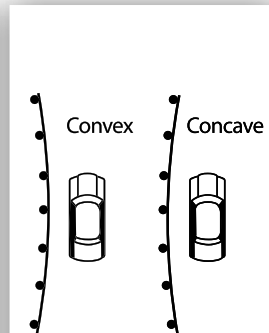

Figure 9:
5. Determine the curvature orientation from Figure 9.